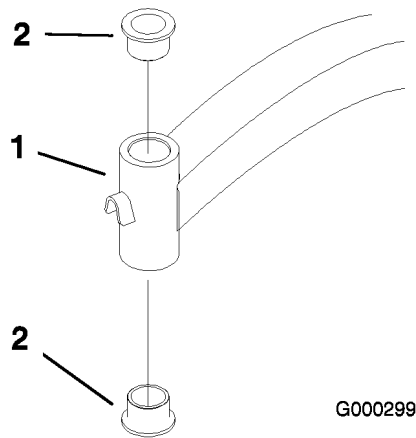

Figure 40
5. Insert a pin punch into the mounting tube and carefully drive out the bushings (Figure 40). Clean the inside of the mounting tube.